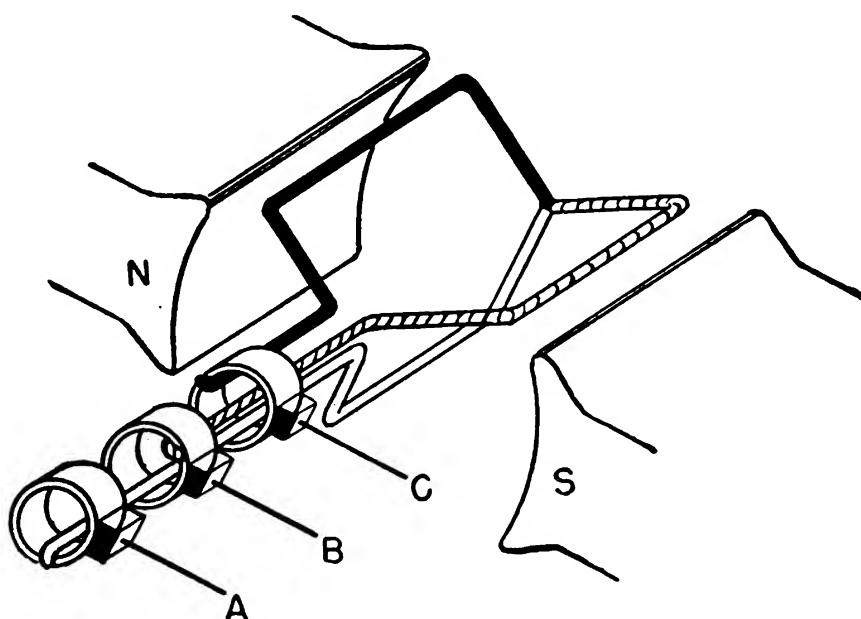
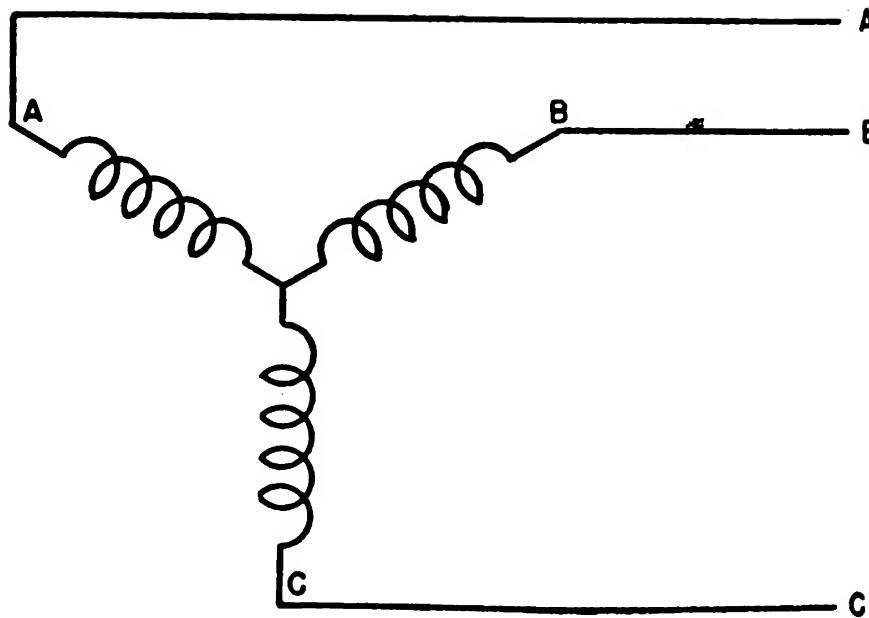

Figure 67.—Three-phase generator using three slip-rings.
Figure 68.—Schematic of figure 67.
Now connect the coils as shown in figure 67. You can do away with three wires and yet maintain your three-phase system. This is the way three-phase generators are usually connected. A schematic diagram is shown in figure 68. This type of connection is known as STAR, or WYE (Y) CONNECTION. In many